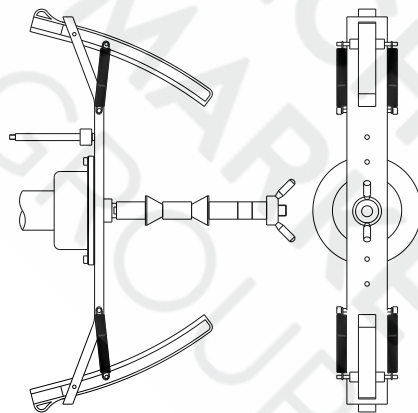

Fig.F4.2 Application of sample weight on the internal side of the motorcycle flange on the shaft (Cal2 phase)
8. At the end of the launch, the machine will display the writing h12 CAL. Apply the calibration weight on the internal side as shown in Figure F4.2. The calibration weight is to be applied on the hole that has the writing "CAL" marked on it;
9. Bring the motorcycle flange in perfect vertical position with the calibration weight at the top part as shown in figure F4.2 and press the [P8]  Start or lower the wheel guard.